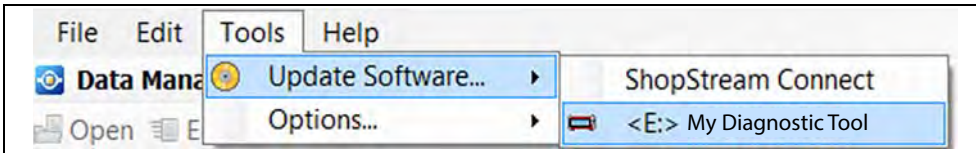

Figure 16-12
1. Select **Tools > Update Software >** (diagnostic tool type - e.g. **ETHOS Edge, MODIS Edge, SOLUS Edge, etc.**) from the Menu bar (*Figure 16-12*).